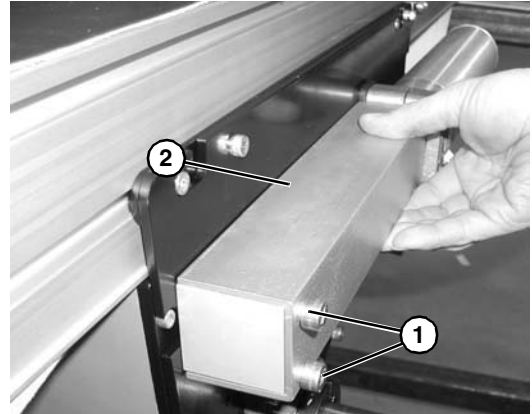

Figure 62
2. Remove screws (**Figure 62, item 1**) and tensioning guards (**Figure 62, item 2**) from both sides of center drive.